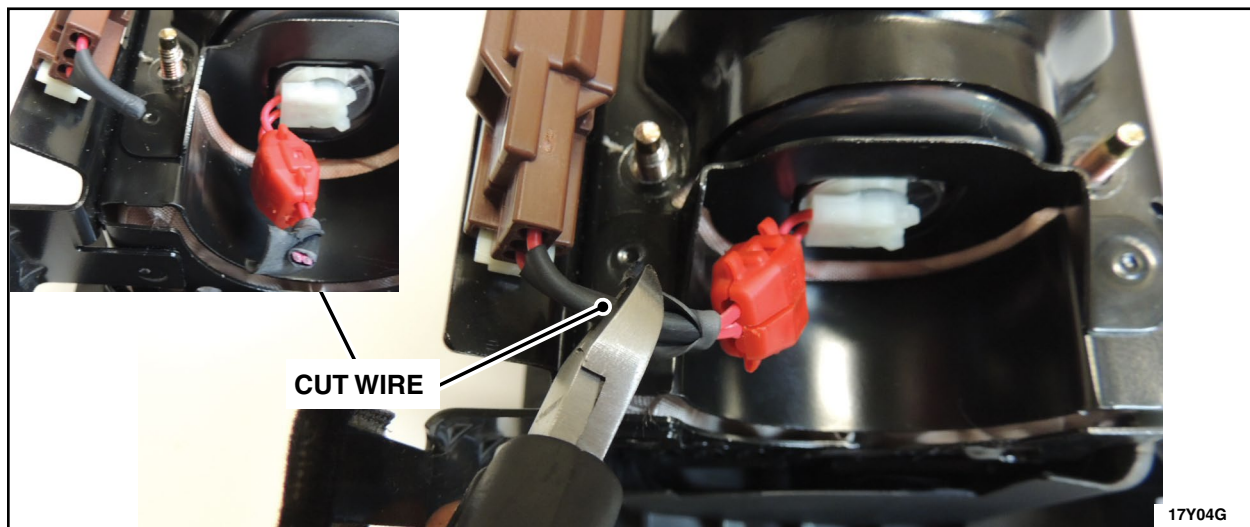

FIGURE 7
5. Cut the inflator wiring between connector and the shunt. See Figure 7.